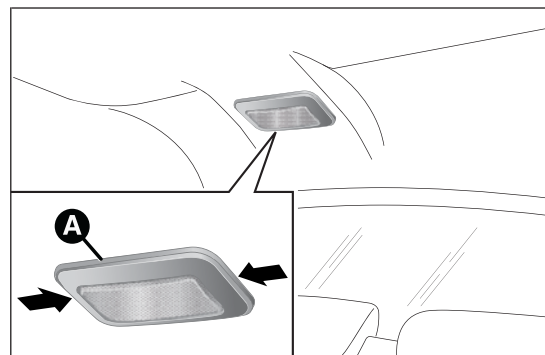

fig. 145
- operate in the point shown by the arrow and remove the roof light A fig. 145;